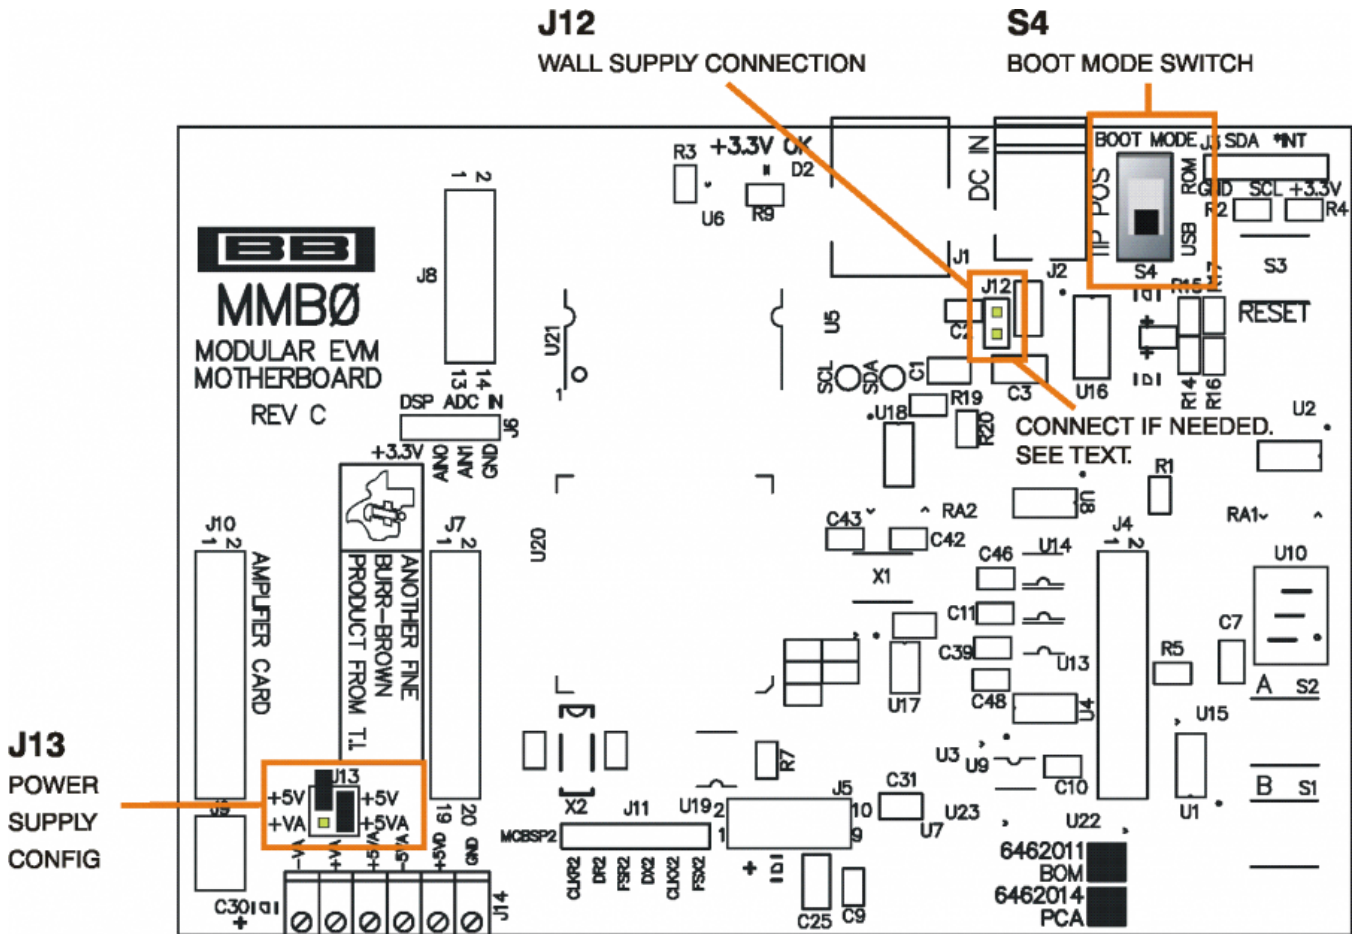

Figure 3. MMB0 Initial Setup
- Step 2. Set the jumpers and switches on the MMB0 as shown in Figure 3.